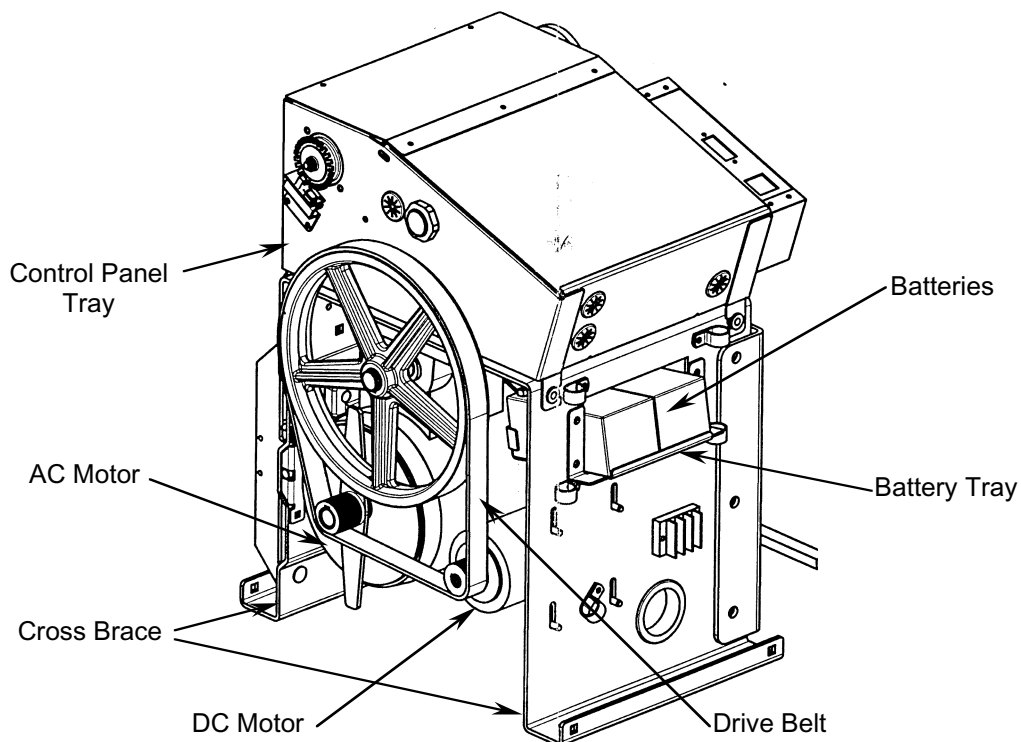

Figure 10. The 885 Operator with the Battery Back Up System installed.
To install the battery back up system, follow the steps below and refer to figures 10 and 11.
3. Mount the dc motor in the location shown in figure 10. Secure it with 4 each of the 6mm flat washers and self-locking nuts.
8. Once the drive belt is installed, mount the cross brace across the bottom of the operator (mounting points shown in Figure 10) with the 8mm hex bolts and self-locking nuts.